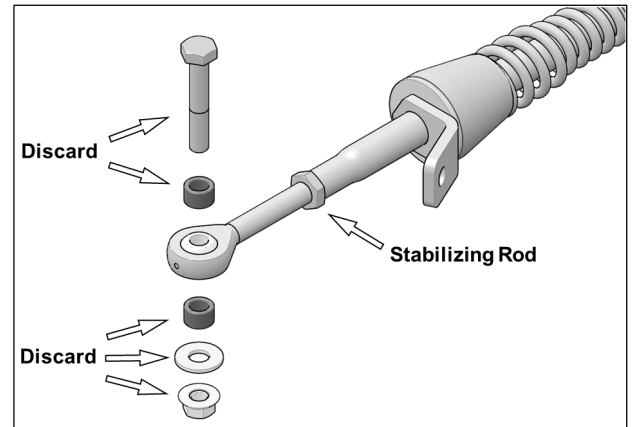

Fig. 17
8. Remove and discard bolt, washer, bushings, and nut assembled on front stabilizing rod ends. See Fig. 17